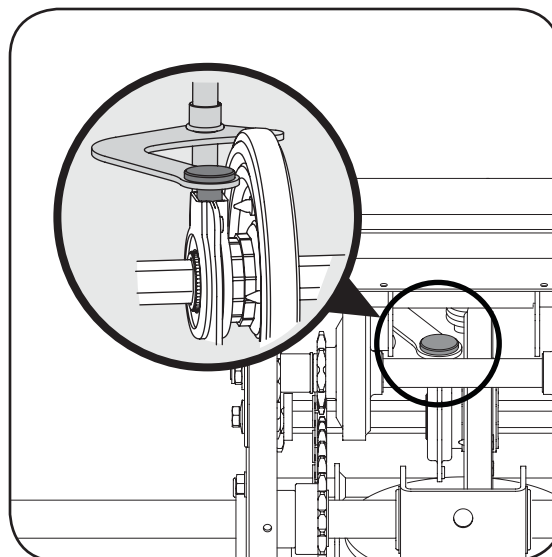

Figure 6-14
- Insert the pin from the shift arm assembly into the friction wheel assembly and hold assembly in position. Refer to Figure 6-14 .